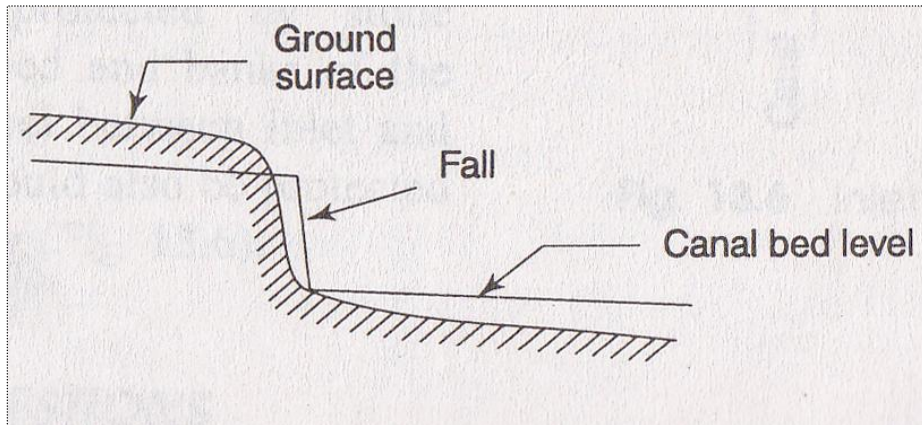

Fig. 1
- When the slope of the ground suddenly changes to steeper slope, the permissible bed slope can not be maintained. It requires excessive earthwork in filling to maintain the slope. In such a case falls are provided to avoid excessive earth work in filling (**Fig. 1**)